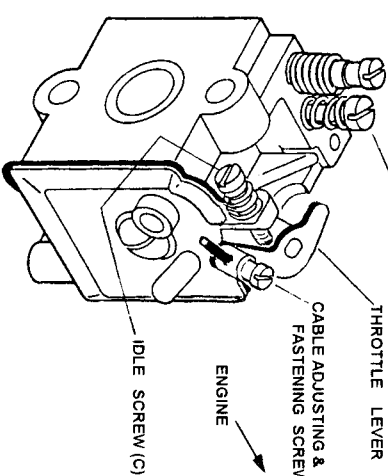

FIG. 22
2. **Engine Idling Setting:** To increase engine idle speed, turn clockwise IDLE SCREW (C) in Fig. 22. To decrease engine idle speed, turn idle screw (C) counter (anti) clockwise.